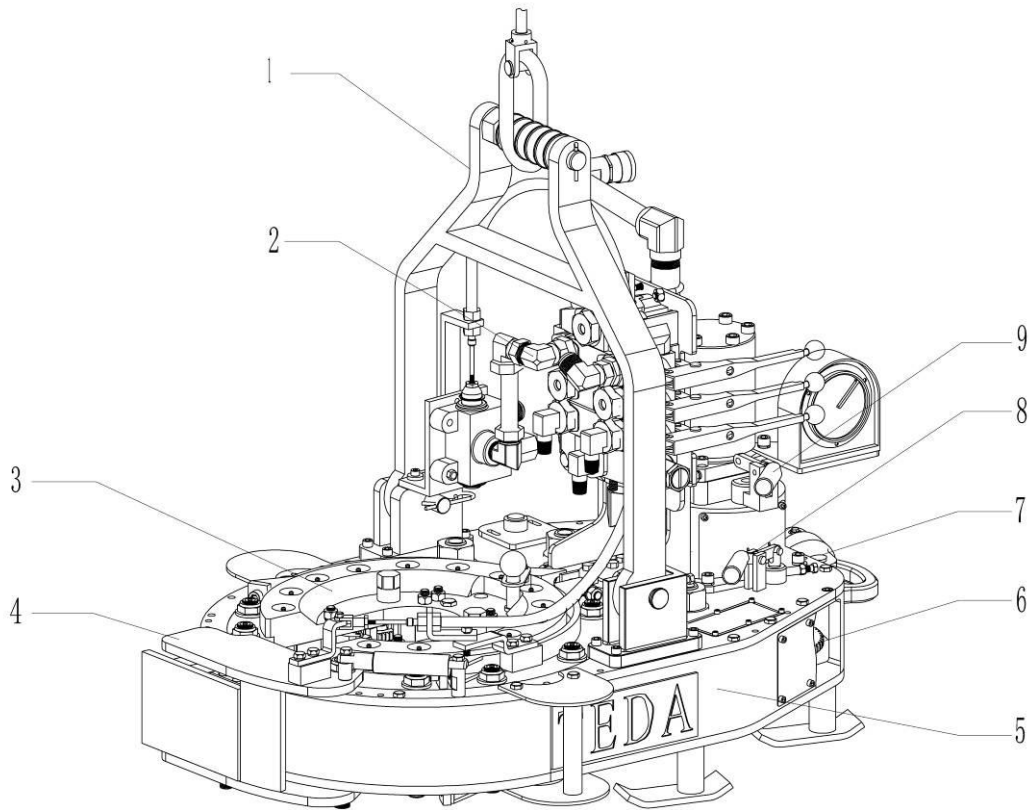

Fig. 7-2
2. Assembly of master tong (Fig 7-2, Table 1)
2. Assembly of master tong (Fig 7-2, Table 2)